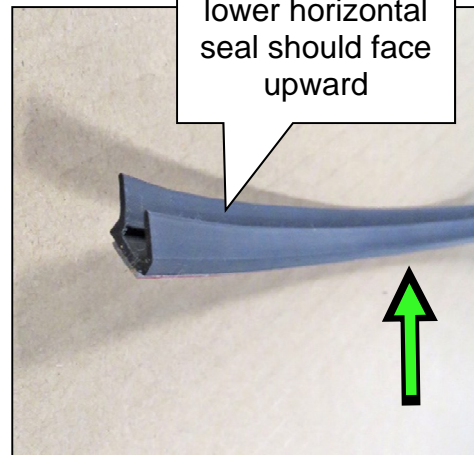

Figure 15
- If replacing the lower horizontal seal, ensure the opening in the seal is facing upward (Figure 15).